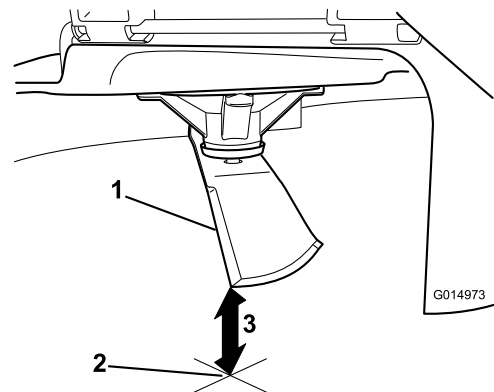

Figure 82
5. Measure from the tip of the blade to the flat surface (Figure 82).